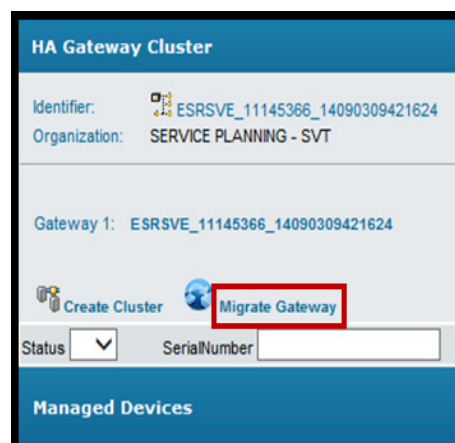

Figure 157 Selecting Migrate Gateway
5. Click **Migrate Gateway**, as shown in Figure 157 on page 121.